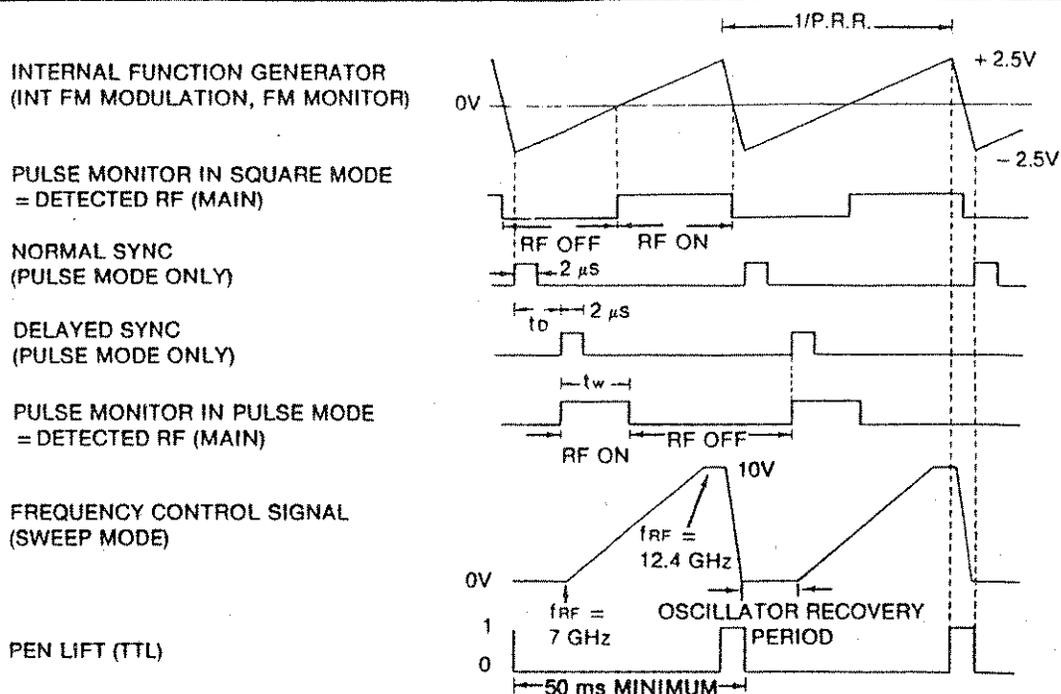

Figure 3-2. Pulse Mode/Sweep Timing Diagram
- 7 **FM (INT/EXT)** — Submode selector of FM **6**. When pressed, modulation source is the front panel controlled internal sawtooth generator. When the button is extended, the modulator source is the externally applied signal at **29**. (Ref: Figure 3-2.)
INT — Pulsed RF output at 50% duty cycle controlled by the internal pulse generator whose rate is set by **9** and **26**. (Ref: Figure 3-2.)
INT — Pulsed RF output controlled by the internal generator whose rate is set by **9** and **26** and whose width is set by **11** and **21**. Delay relative to NORMAL SYNC **22** is adjusted by **10** and **23**. (Ref: Figure 3-2.)
²Ref: Figure 3-2.